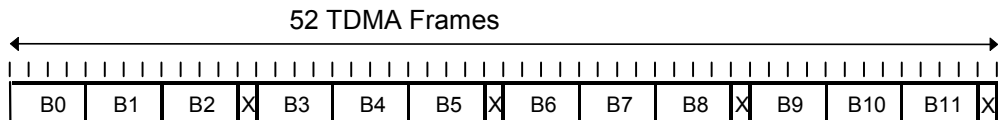

Fig. 4-62 52-multiframe for PDCH
The CMU provides a GPRS or EGPRS signal with a 52-multiframe structure as shown in Fig. 4-62 below. Each 52-multiframe contains 12 blocks of 4 consecutive frames (B0 to B12), 2 idle frames (X) and 2 frames used for the Packet Timing Advance Control Channel (X). All blocks in the signal are coded and modulated with the same coding and puncturing scheme.